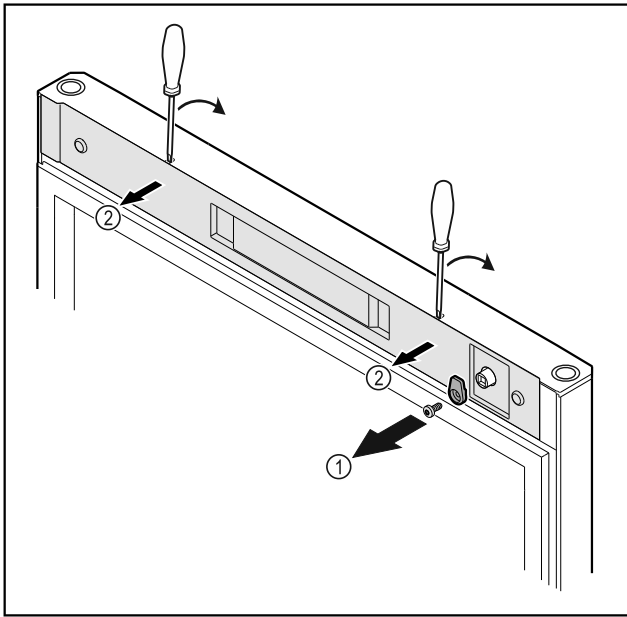

Fig. 11
- ▶ Unscrew the door latch Fig. 11 (1).
- ▶ Unlatch the cover Fig. 11 (2) with a small screwdriver and remove it.